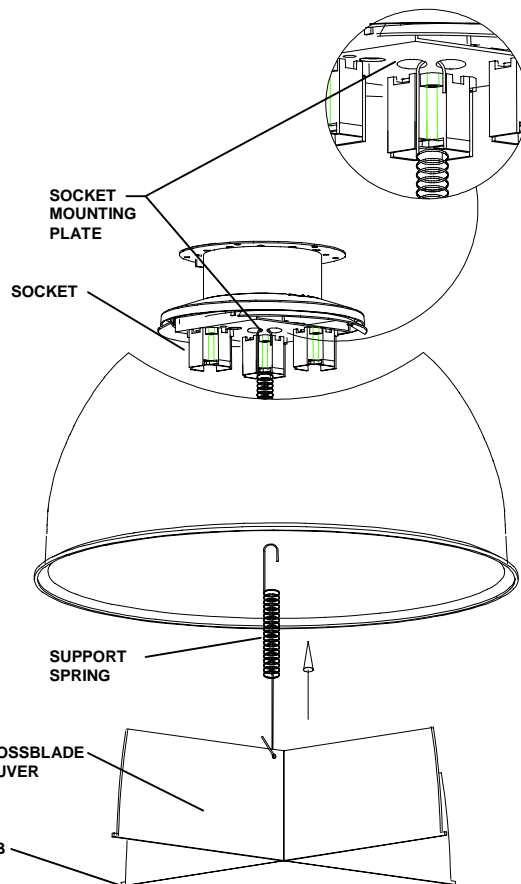

FIG. 6
1. Hook "J" shaped end of SUPPORT SPRING through the two holes in SOCKET MOUNTING PLATE as shown in Fig. 6.
3. Carefully allow SUPPORT SPRING to pull CROSSBLADE LOUVER up into REFLECTOR making certain TABS on CROSSBLADE LOUVER sits securely into recessed LIP of REFLECTOR (Fig. 6).